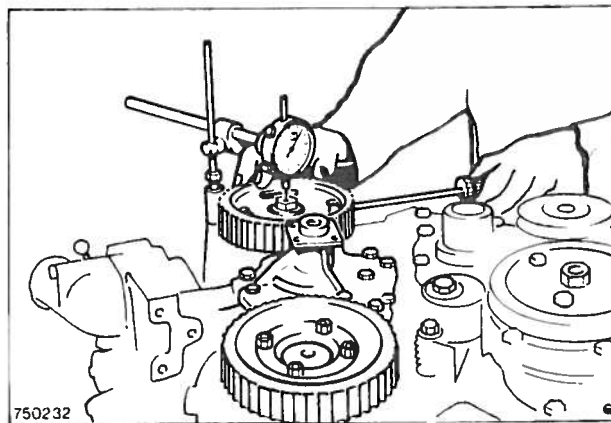

Fig. 34 Checking the camshaft end float
20. Check the camshaft end float by mounting a dial gauge stand, Fig. 34, in an existing bolt hole. With the gauge (set to zero) touching the centre bolt, gently prise the camshaft gear upwards with a suitable lever until the end float is taken up. The reading on the gauge should be within the maximum permitted figure – see specifications; renew parts as necessary.